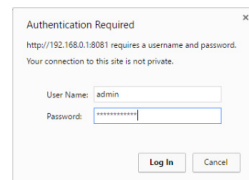

Figure 9: xPicoWiFi Login Dialog Box
6. A dialog box will appear. Type “admin” in lower case in the User Name box and the full MAC/Serial # without dashes (e.g. 0080A3AB01C8) in the Password box. Click on Log In button. See Figure 9.